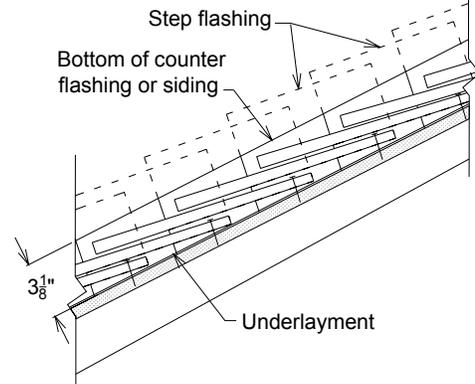

FIGURE 8. STEP FLASHING AT SIDEWALL
4. Install step flashing between each course of shingles along all vertical surfaces. The head and side laps should be a minimum of 4" and extend 5" up the vertical. If counter flashing is not used, a vapor barrier extending over the flashing should be used behind the siding. (Figure 8)